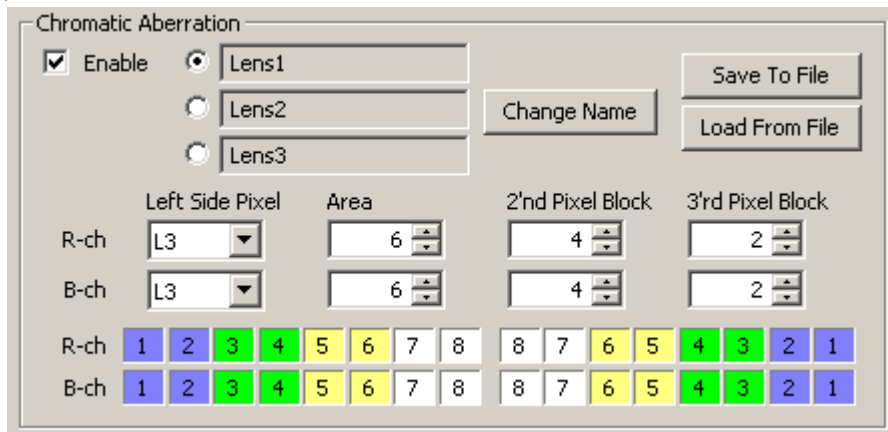

Fig. 23 Setting screen for lateral chromatic aberration
**Important note:** Load From File and Save To File do not save the current settings in a User Data area. In order to store the settings entered in the Chromatic Aberration window (Fig.23) for reuse later, you must use the command SA, Save Settings.